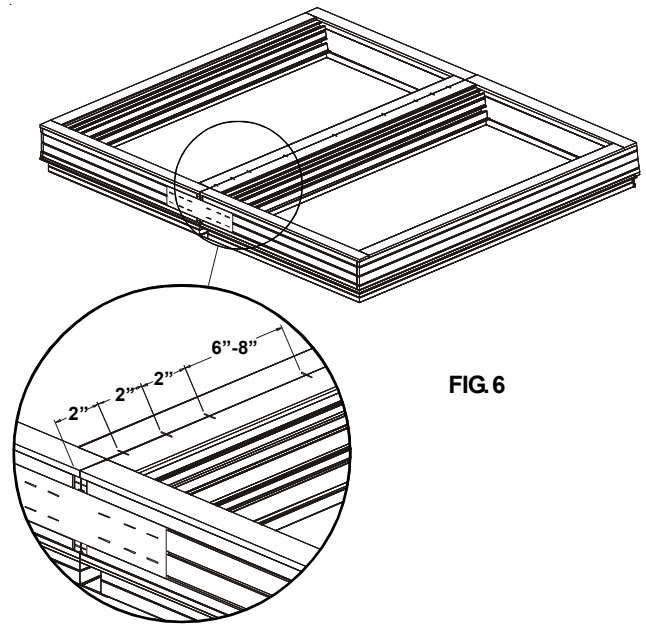

FIG. 6
- Carefully turn the assembly over so that the interior side is facing up. NOTE: Larger assemblies may require additional bracing at the mulls before turning assembly over. Fasten units together at the mull using the 1/2" x 5/8" crown staples. Place 3 staples on both ends approximately 2" from the edge of the frame and spaced 2" apart. Space the remaining staples 6-8" apart along the length of the mull. See Fig. 6.